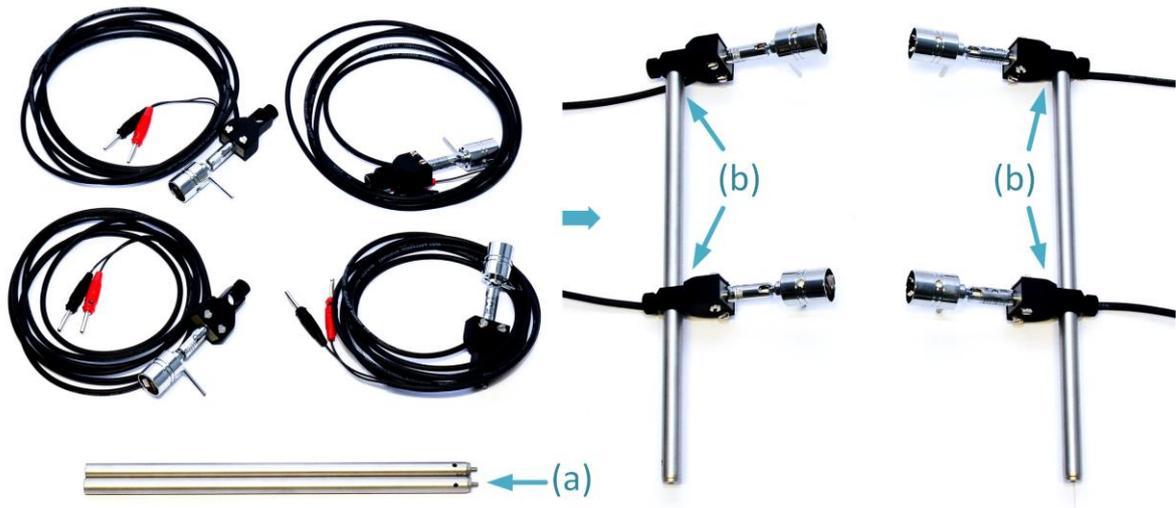

Figure 26 Assembly of lamp holders on the posts (Step 4.1)
Step 4.1 Mount the lamp holders on the post (Figure 26)
- b. Slide two lamp holders on the post and fix them by tightening the screw on the post end clamp, as shown in Figure 26. Repeat this step to assemble the remaining two lamp holders on the second post.